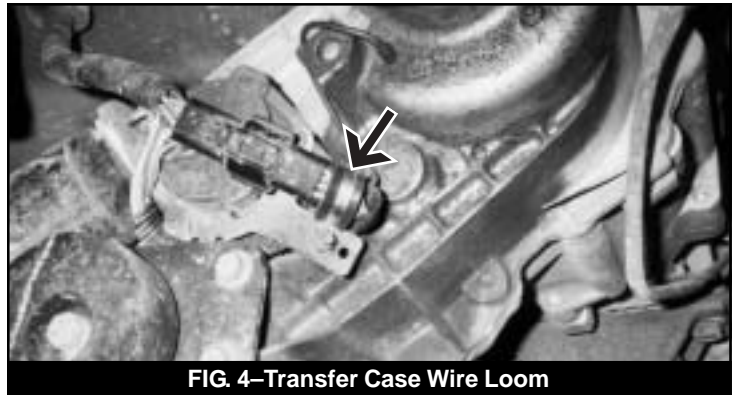

FIG. 4—Transfer Case Wire Loom
14. Attach wire loom clamp to the wire loom. Attach clamp to the bracket on the back of transfer case using a 1/4" x 1" bolt, two 1/4" SAE washers, and a nut (Fig. 4).